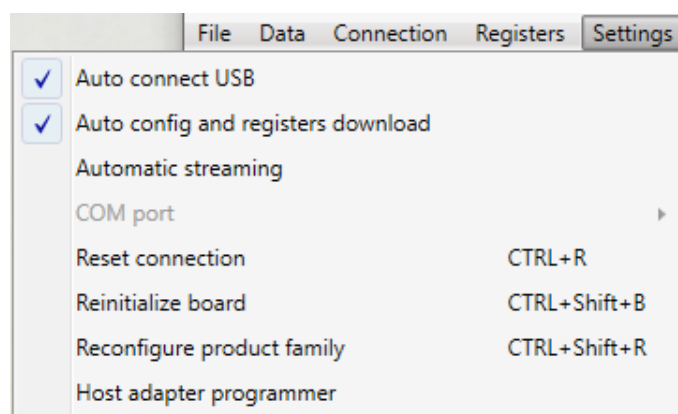

Figure 13 Settings menu
- The “*settings*” menu (Figure 13) contain various connectivity and functionality settings.